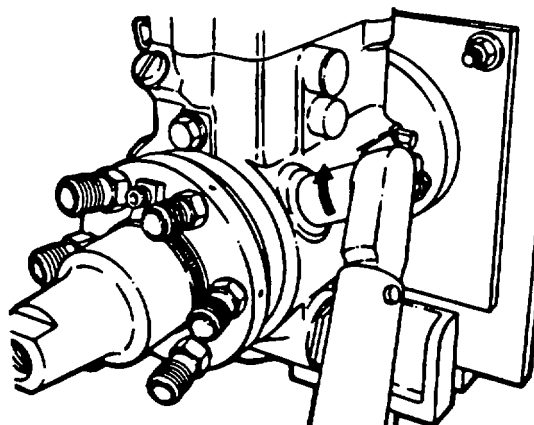

FIGURE 3-107. Installing Locking Head Bolts
cq. Tighten both head locking bolts (53) 15 to 18 ft-lbs (20 to 25 Nm), refer to FIGURE 3-107.